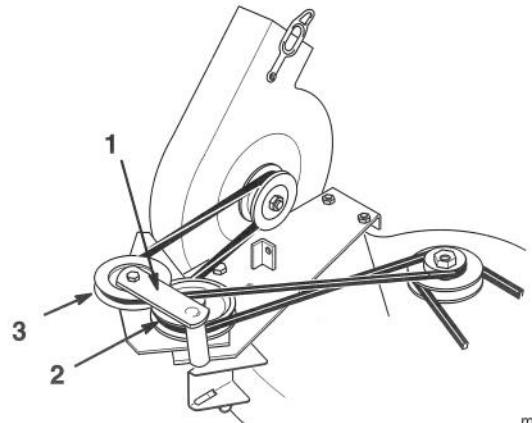

Figure 30
1. Open latch and swing the blower out away from the mower, remove the blower belt from idler and blower pulleys (Fig. 30).